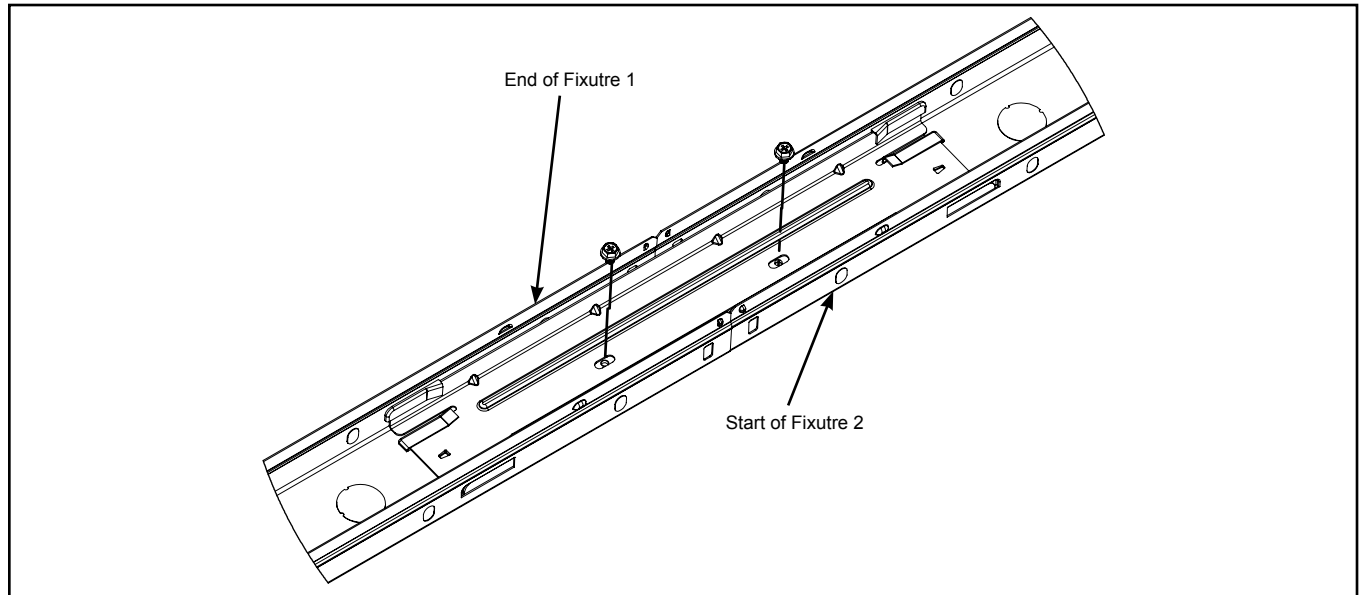

Figure 4
- Slide the other end of the bracket into the fixture you wish to row mount to (Figure 4). Optional: Use included screws to fasten the bracket into place.